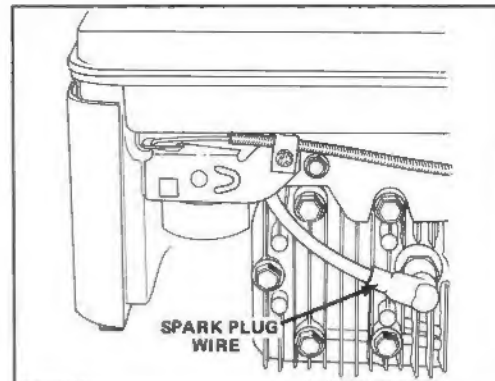

Figure 7
2. Push spark plug wire onto spark plug (Fig. 7).